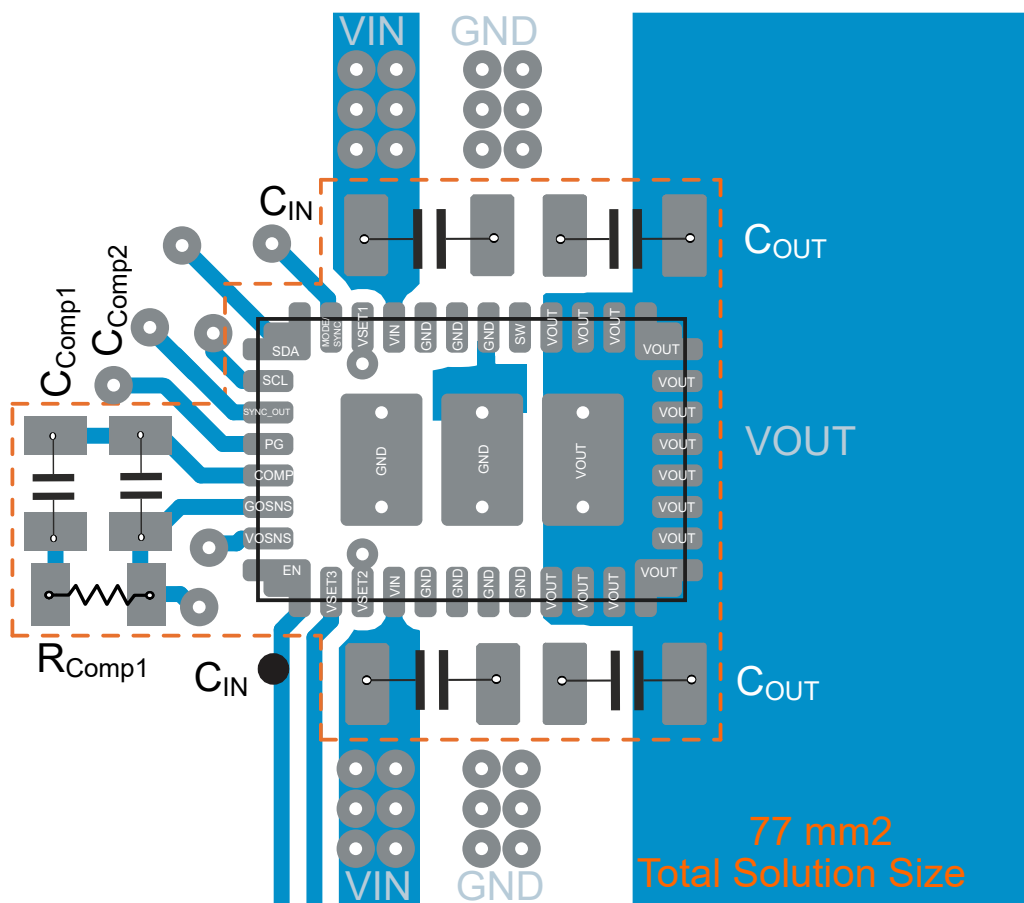

図 9-47. Layout Example
- Refer to Figure 9-47 for an example of component placement, routing, and thermal design.